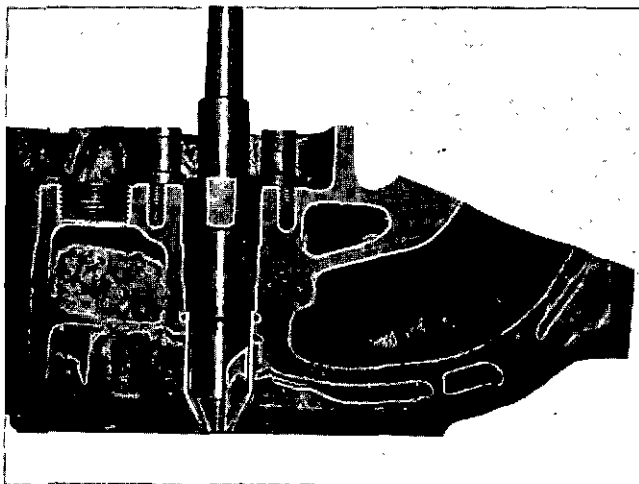
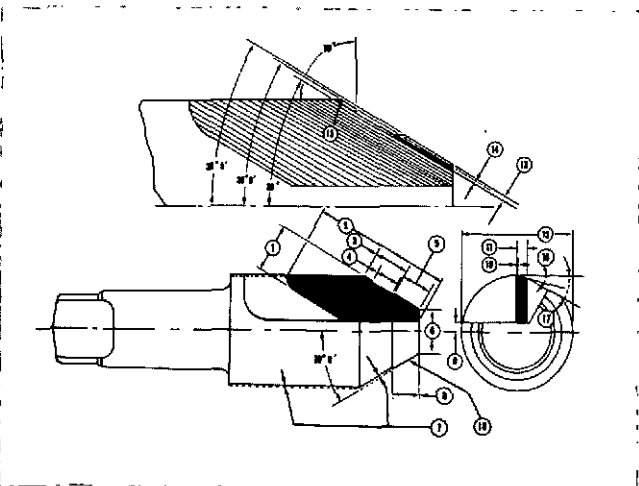

Fig. 2-2-5, V40229. Cut injector seat with ST-884
Fig. 2-2-6, N20213, ST-884 Injector seat cutter dimensions
8. Cut injector seat to provide proper injector seat and injector tip protrusion. Fig. 2-2-5. Use ST-884 Seating Cutter in a drill press with pilot, using a solid stream of good cutting oil to allow cutter to cut freely without grabbing, etc. Check tool bit to make sure it is ground to exact contours shown in Fig. 2-2-6 and Table 2-2-2.
For use of table refer to Fig. 2-2-6.